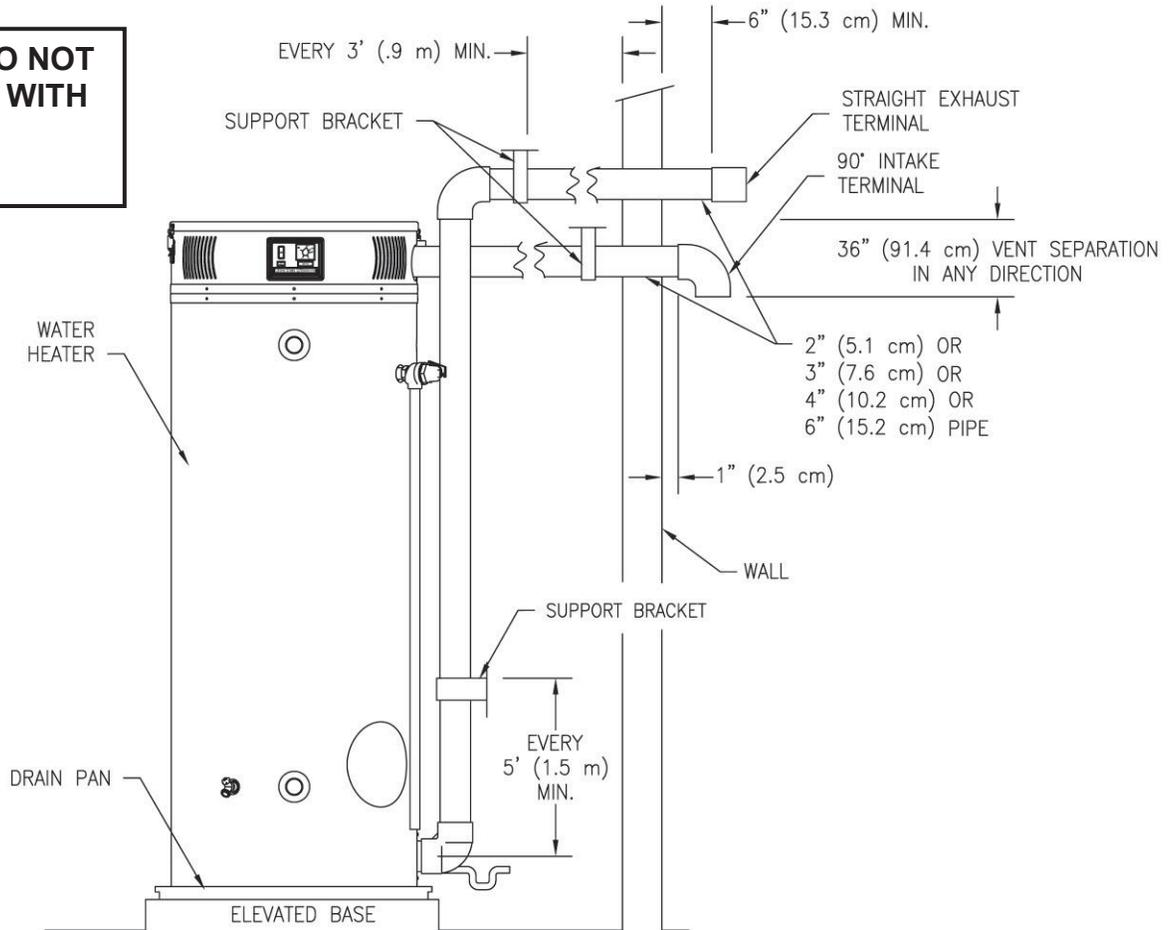

Figure 12 - Typical Horizontal Direct Vent System
2. Use the proper cement to secure the exhaust vent and air intake terminals provided with the water heater to the pipes. The distance between the back edge of the exhaust vent terminal and the exterior wall (see Figure 12) must be 6 in (*15.2 cm*) more for the exhaust vent terminal than the air intake terminal. Use the proper cement or sealant and assembly procedures to secure the vent connector joints between the terminal and the blower outlet. Provide support brackets for every 3 ft (*.92 m*) of horizontal vent beyond the intake terminal.